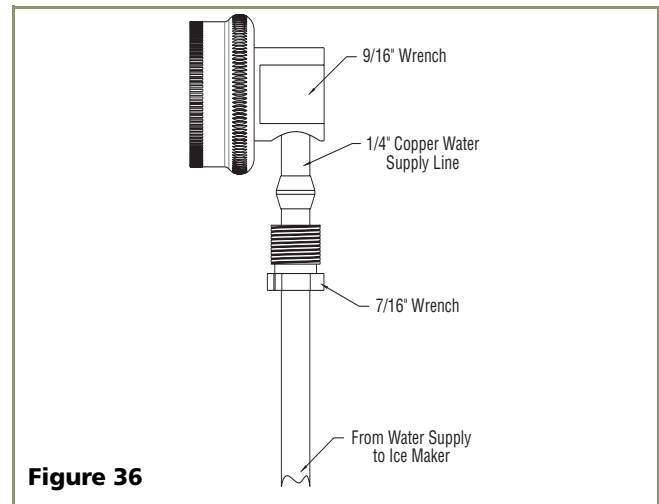

Figure 36
2. Locate the U-Line supplied garden hose fitting. Ensure the end of the copper tubing has been cut straight and free of burrs. Slide the compression nut and ferrule onto the copper tubing as shown (see **Figure 36**). Push the assembly completely into the the garden hose fitting and tighten using the two wrenches. Wait to connect this assembly to the appliance until the drain connection is ready.